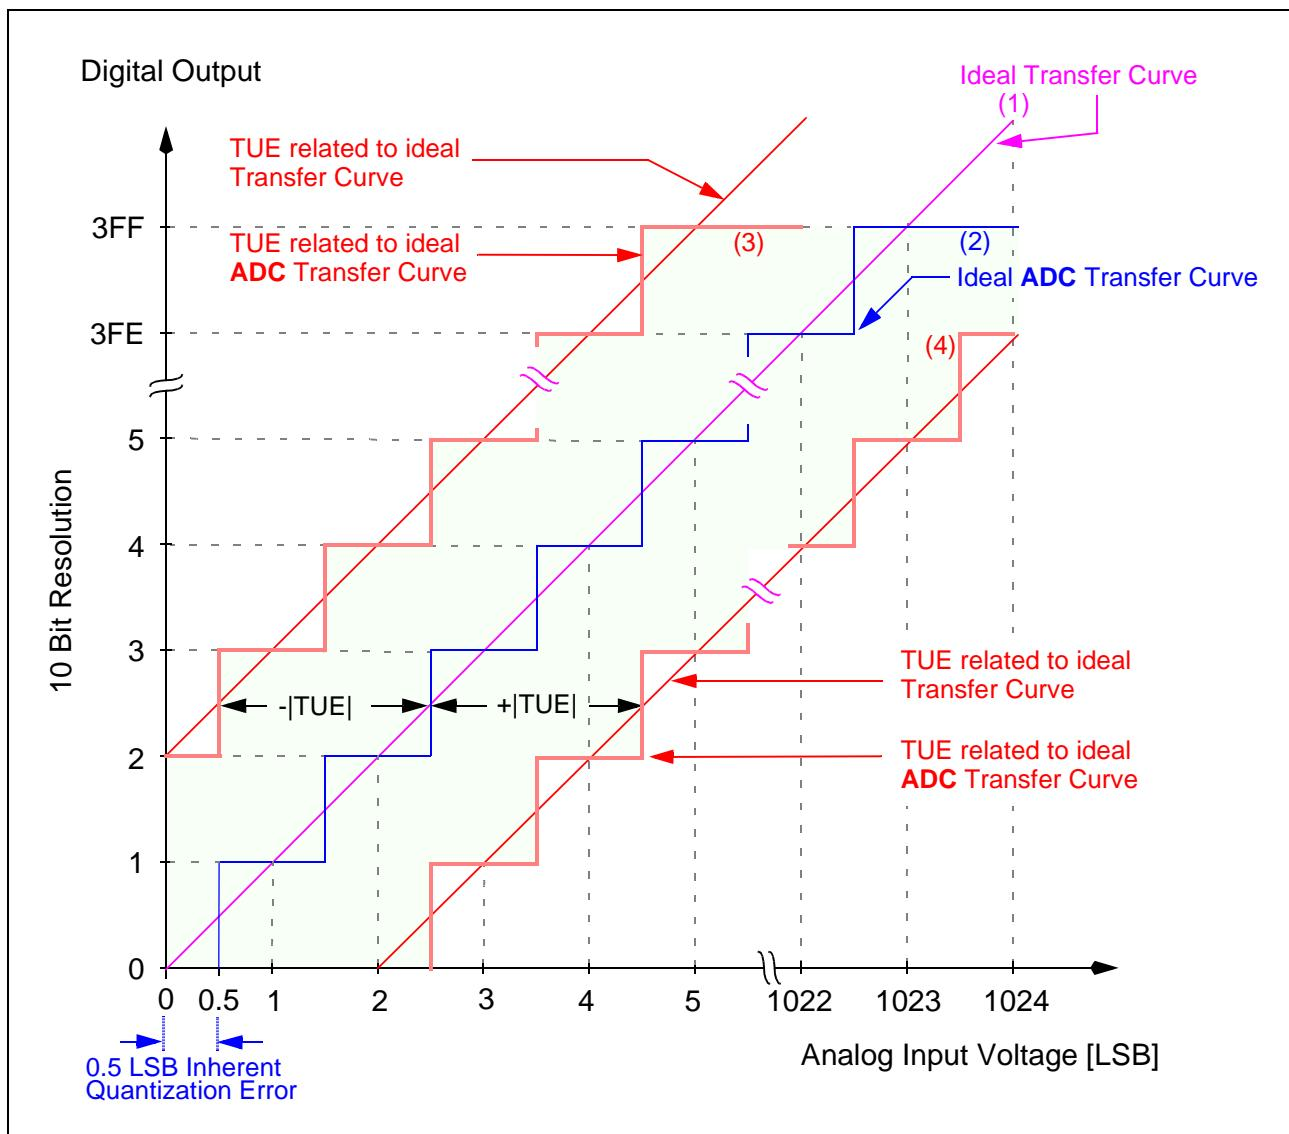

Figure 1      Ideal Transfer Characteristic
The resolution ( $r$ ) of the A/D converter refers to the number of quantization levels, an analog input voltage can be determined to. This number of smallest levels is given in bits and one of them is an LSB. **Figure 1** shows an example of an A/D converter with 1024 quantization levels. This A/D converter has a 10-bit resolution. An input voltage of 5 V is quantized with a step size of  $5 \text{ V} / 2^{10} = 4,88 \text{ mV}$ .
**Figure 1** defines the ideal transfer characteristic for an A/D converter. The Ideal Transfer Curve (1) transfers each input to an output.
The TUE consists of offset error, gain error, DNLE and INLE but it is not simply the sum of individually measured errors. Since some errors of the ADC, like offset and gain error, can compensate each other, the TUE can be far less than the absolute sum of all individual errors. **Figure 1** shows the definition of the TUE in relation to the Ideal ADC Transfer Curve (1).
The real result of the A/D converter is in the range of Ideal ADC Transfer Curve (2) +/- TUE. This area is shaded in **Figure 1** and is between both TUE related to ideal ADC Transfer Curves (3) and (4).